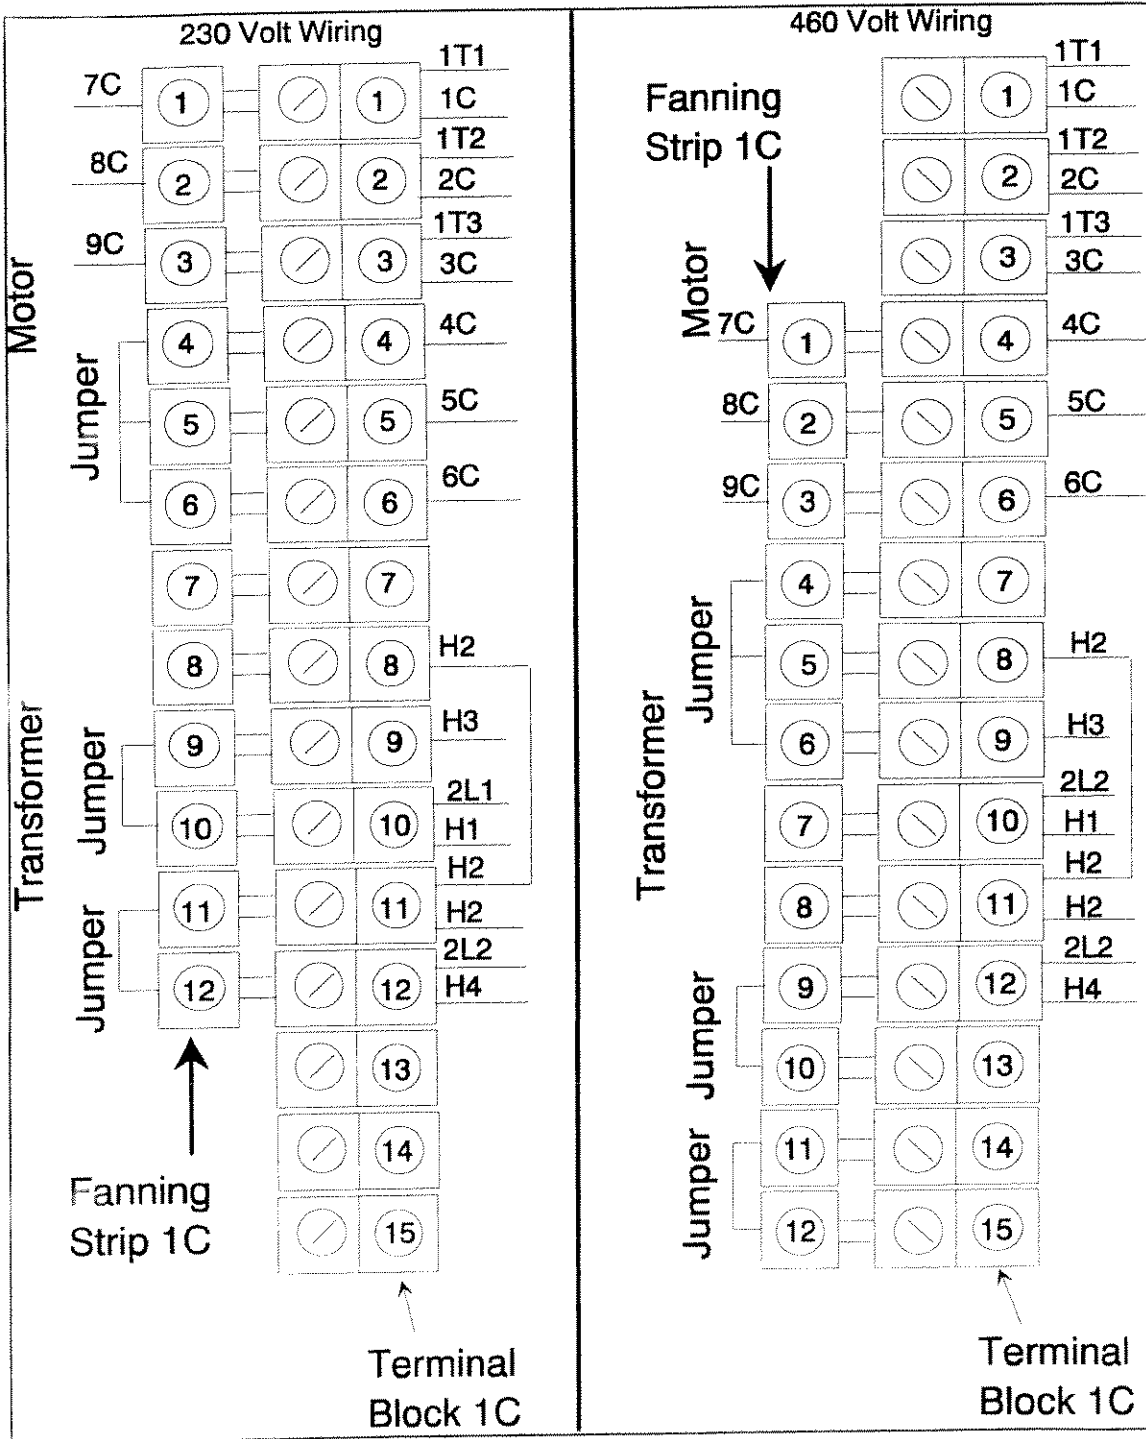

Figure 1
3. Open the control panel to the Model 654 Dust Collector and locate Terminal Block 1C and Fanning Strip 1C. Terminal Block 1C should have a total of fifteen (15) terminals. Fanning strip 1C will have twelve (12) terminals. **(SEE FIGURE 1 , Page 7)** The entire fanning strip is designed to move as a unit. Do not try to move individual terminals. Loosen the center screws that secure the fanning strip to the terminal board. Gently pull the fanning strip away from the terminal board and reinsert the fanning strip three (3) positions down so that fanning strip terminal one (1) is inserted into terminal strip number four (4). Fanning strip number twelve (12) will be inserted into terminal block number fifteen (15). Once the entire fanning strip is moved to the proper location, tighten **all the center connectors**.
3. Open the control panel to the Model 654 Dust Collector and locate Terminal Block 1C and Fanning Strip 1C. Terminal Block 1C should have a total of fifteen (15) terminal locations. Fanning strip 1C will have twelve (12) terminals. **(SEE FIGURE 1, Page 7)** Loosen the center screws that secure the fanning strip to the terminal board. The fanning strip is designed to move as a unit. Do not try to move individual terminals.